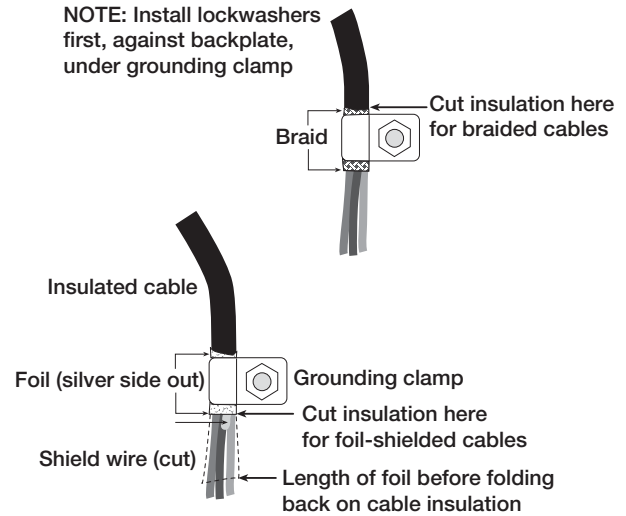

Figure 2-3. Grounding Clamp Attachment for Foil-Shielded and Braided Cabling
- For cables with foil shielding, strip insulation and foil from the cable half an inch (15 mm) past the grounding clamp (see Figure 2-3). Fold the foil shield back on the cable where the cable passes through the clamp. Ensure silver (conductive) side of foil is turned outward for contact with the grounding clamp.